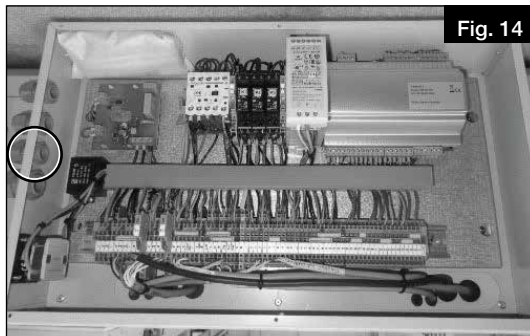

Fig. 14
2. Loosen the marked grommet and insert the cables (see Fig. 14).